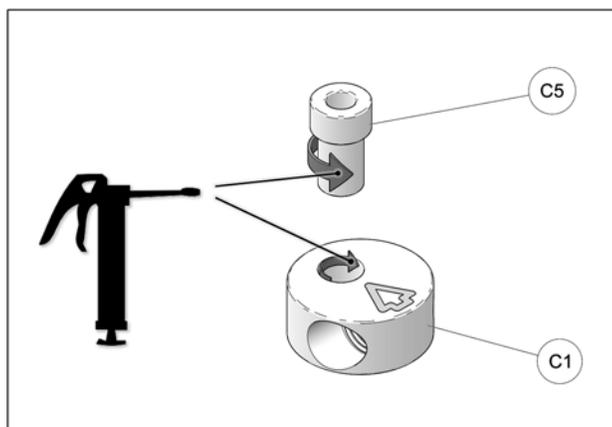

Fig. 25
11. Apply grease evenly all around step spacer bushing (C5) and in hole of aluminum disk (C1) when assembling these parts together. See Fig. 25